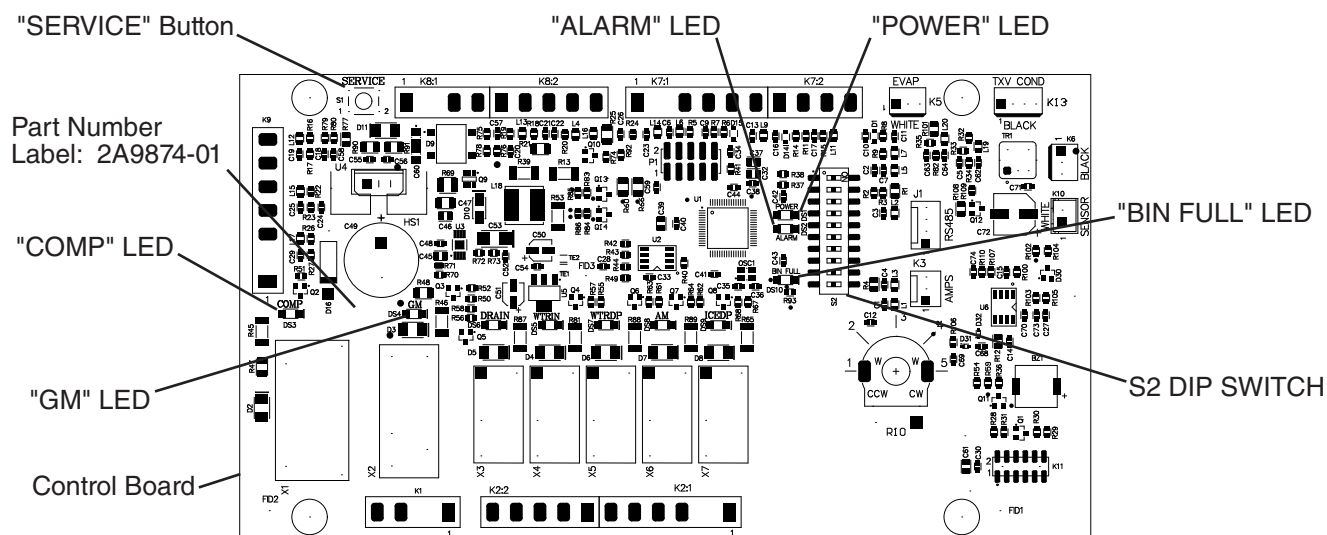

Fig. 6
- 5) Make sure the "GM" LED on the control board is on. See Fig. 6. There is a delay of at least 30 seconds before the "GM" LED turns on after power-up. After the "GM" LED turns on, press the "SERVICE" button on the control board to bypass the 5-min. compressor delay. **WARNING! Risk of electric shock. Care should be taken not to touch live terminals.** Confirm the "COMP" LED turns on.